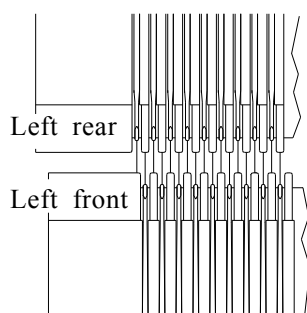

Fig.7.10.1 Initial position of needle bed
The rear bed can be racked four (4) inch(left right each 2 inches), the initial position"0". See the left selvedge of needle bed, the corresponding position that the first needle of rear is on the left hand side of the first needle of front. As shown in Fig.7.10.1.In editing instruction you can choose the left racking or the right racking by one pitch.